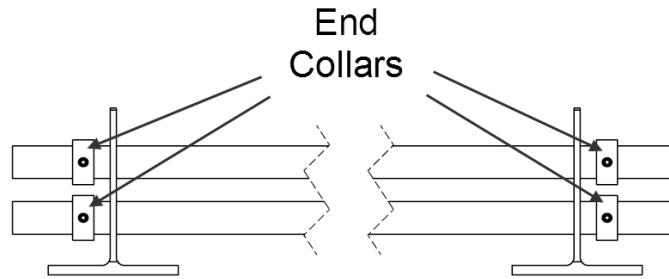

Fig. 3
- If using on a system with **PP86 Internal Coupling**: End Collars (PP65) should be placed over each end of each run of pipe (Figure 3). Place the End Collar over the pipe and tighten the set screw until it no longer slides. The End Collar should be within 1" of the snow guard bracket, spacing is 1/8" for every 10' of pipe. For example, if the run of snow guards is 80' then the End Collar should be 1" outside the bracket.